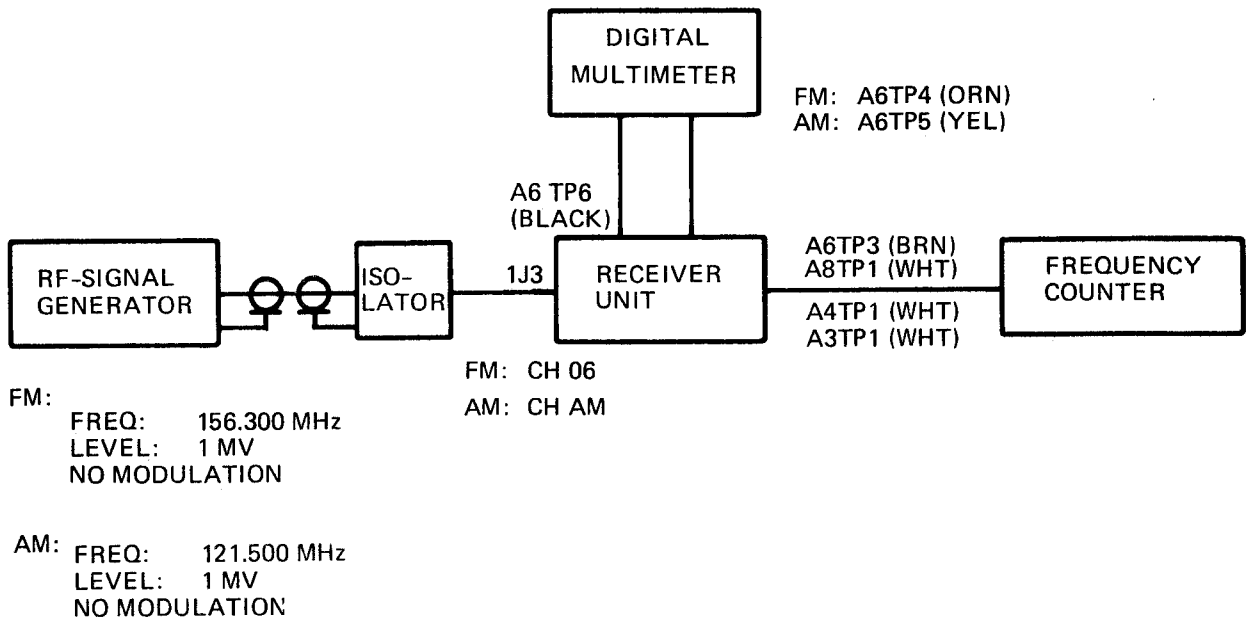

Figure 4-1. Frequency Test Setup
- (e) Connect test equipment to receiver as shown in figure 4-1.
- (b) Set up test equipment as shown in figure 4-1 and apply dc power (ON).